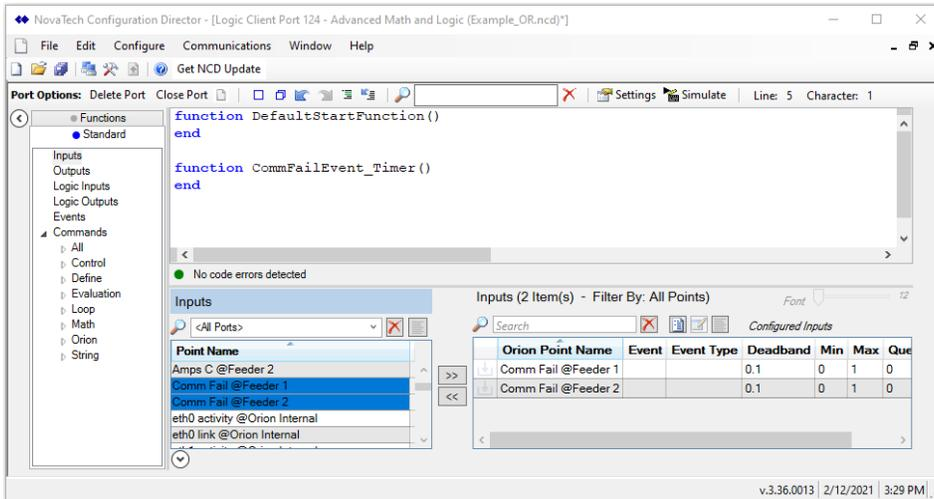

Figure 32: Select the Comm Fail Points
Step 2: Select Comm Fail Points of Field Devices (Figure 32)
The next step is to include both Comm Fail points of the respective field devices into the logic. Under the Inputs menu, (Figure 32), select the Comm Fail points for the respective field devices from the Point Name List and copy them to the Configured Inputs list.